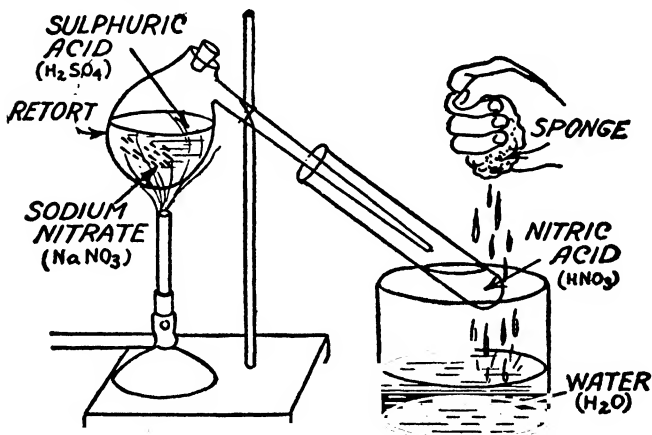

FIG. 30. APPARATUS FOR MAKING NITRIC ACID (HNO_3)
How to Make Nitric Acid.—*The Apparatus.*—To make *nitric acid* (HNO_3) get (1) a 2-ounce *glass retort* with a *stopper* in it, (2) a *test tube* and fix the retort to it, and (3) a *stand*, as shown in Fig. 30.